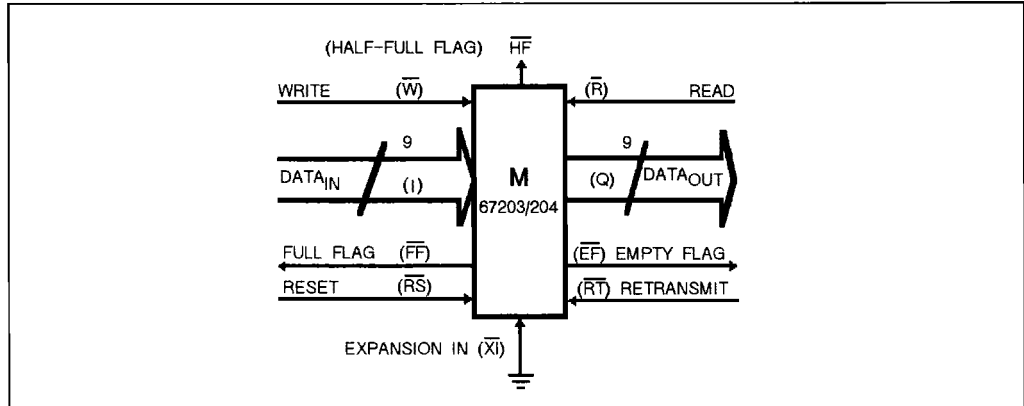

Figure 2 : Block Diagram of Single 2K x 9 and 4K x 9 FIFO.
Configuration when the Expansion In ( $\overline{XI}$ ) control input is grounded (see Figure 2). In this mode the Half-Full Flag (HF), which is an active low output, is shared with Expansion Out ( $\overline{XO}$ ).